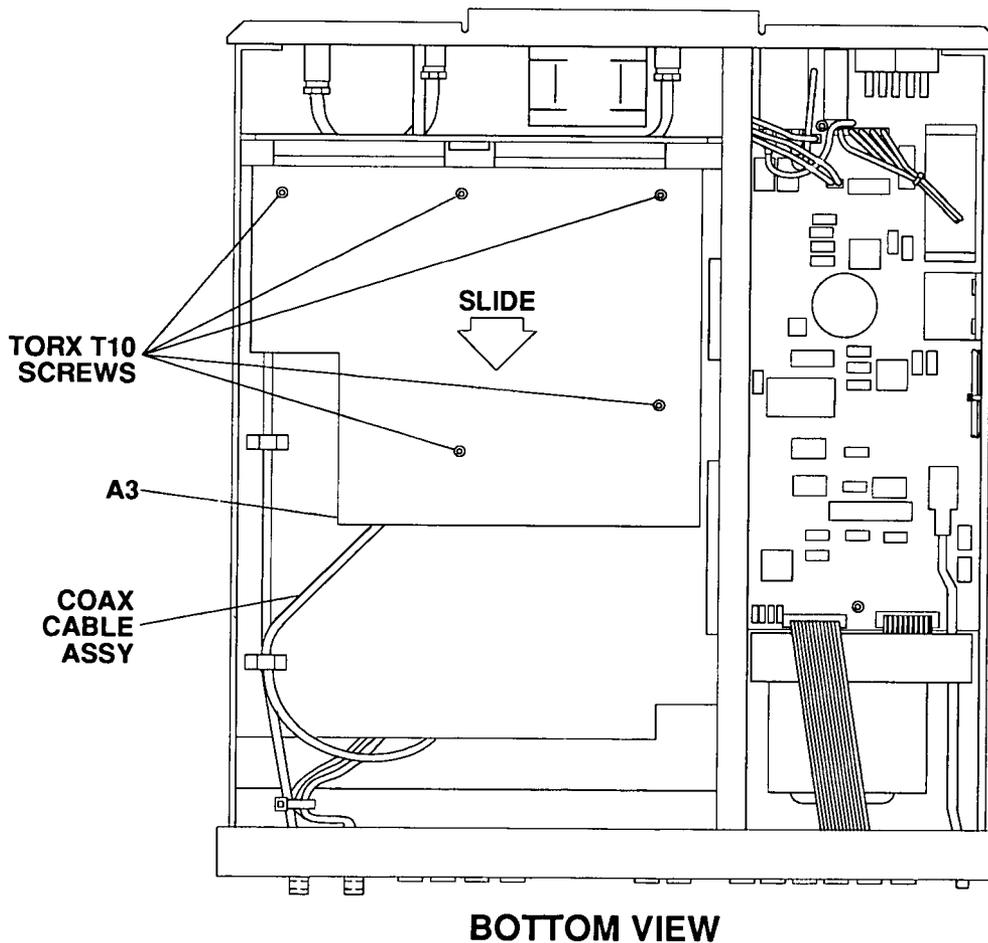

Figure 3-6. Remove and Replace A3 High Voltage Amp PCA
3. Disconnect coax cable assembly from A3 (refer to Figure 3-6).